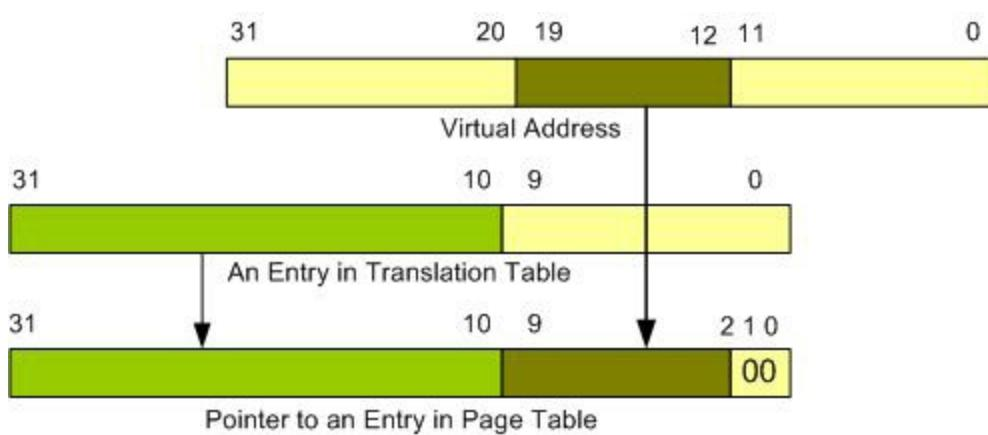

Figure 15-3: Accessing Page Table
- b) A19–A12 (8 bits total) of the virtual address are used to point to one of the page table entries. Since the middle 8 bits of the virtual address point to the entry in the second-level page table directory, there can be 256 page directories ( $2^8 = 256$ ). Figure 15-3 shows how A19–A12 (8 bits total) of the virtual address and the upper 22 bits of translation table descriptor are concatenated to produce pointer to an entry in the page table.
(two levels of table-walking). See Figure 15-3. The 64 TLB entries use  $64 \times 32$ -bit of SRAM since the addresses are 32-bit in ARM. Therefore, one way to avoid the process of virtual-to-physical address translation (to maximize TLB hit) is to increase the number of pages held by the TLB. Then, the question is why not have 1024 entries for TLB and have instant access to 4M bytes ( $1024 \times 4K = 4,096K = 4M$ ) of code and data? The problem is searching for the 1024 entries takes time even if we have a very fast comparators and that defeats the purpose of TLB. Also using 1024 entries TLB needs  $1024 \times 4$  bytes = 4096 bytes of SRAM inside the ARM. With 64 entries TLB we only need  $64 \times 4$  bytes = 256 bytes of SRAM. Obviously larger TLB is more expensive. So some vendor of ARM CPUs might use 2-way or 4-way set associative with 32 entries to reduce the occurrence of page fault, that is to reduce virtual-to-physical address translation time (table-walking). See the reference manual for vendor of your ARM chip for TLB size and its associativity. Also see cache memory chapter for explanation of n-way set associative concepts. See Example 15-1